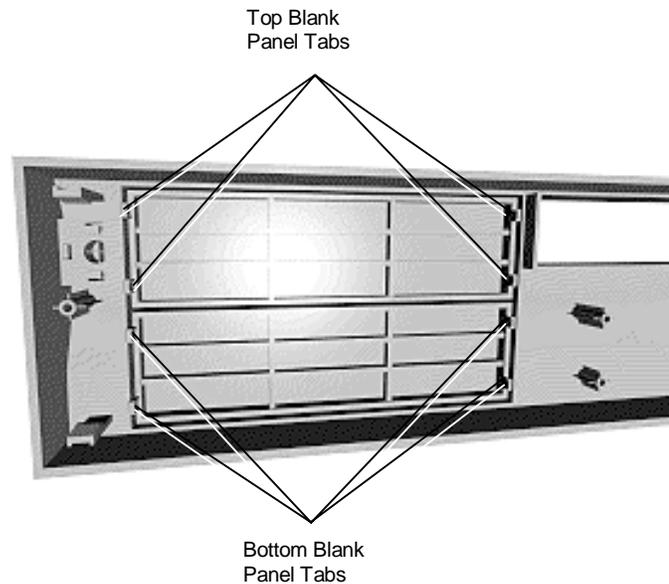

Figure 5-9 *Blank Panel Tabs*
2. Remove the blank panel from the selected slot by pressing the panel tabs from inside the front panel and pushing the blank panel out (see Figure 5-9).